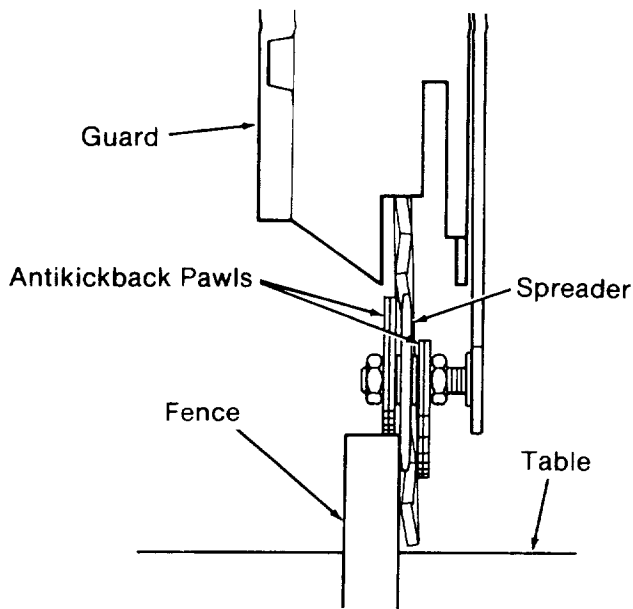

Fig. 92
11. Lower the *spreader* and *antikickback pawls* until the *spreader* is against the *fence*, and the *pawls* on one side of the *spreader* are on top of the *fence*. (Figure 92)